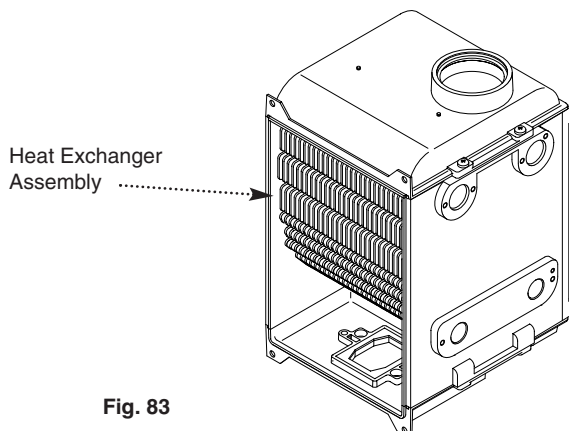

Fig. 83
6. Lift the heat exchanger assembly (Fig. 83) and rotate the bottom upwards whilst pulling it forwards out of the airbox.